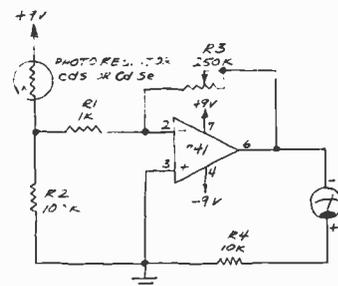

Fig. 3. Advanced light meter.
**Advanced Light Meter.** Figure 3 shows how to add an op amp to the simple light meter described above. The op